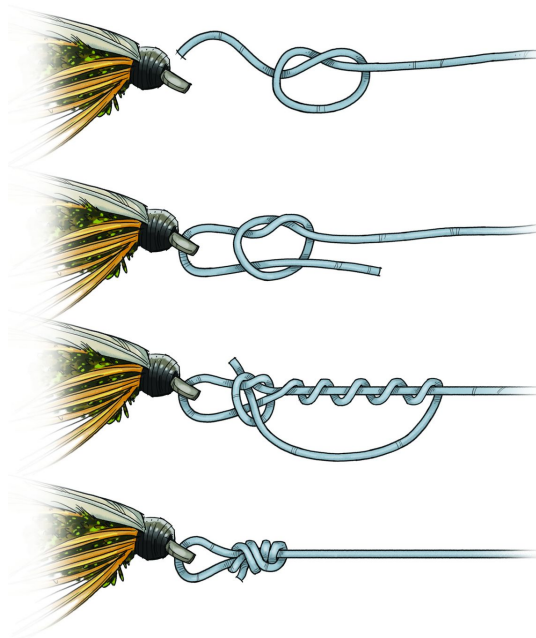

Fig.13: Non-Slip knot
- The following picture (Fig.13) is a good graphic for how to tie the non-slip knot.